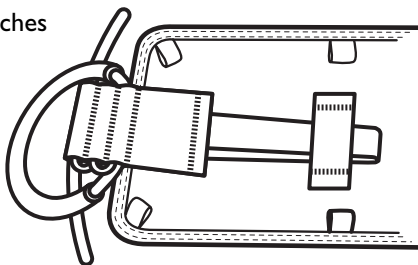

Figure 10
2. Thread the nylon lanyard that attaches the weight release handle to the weight pocket assembly under the nylon loop on the back of the weight pocket assembly so that it lies flat. The lanyard will be doubled over when it is properly installed. See Figure 10.